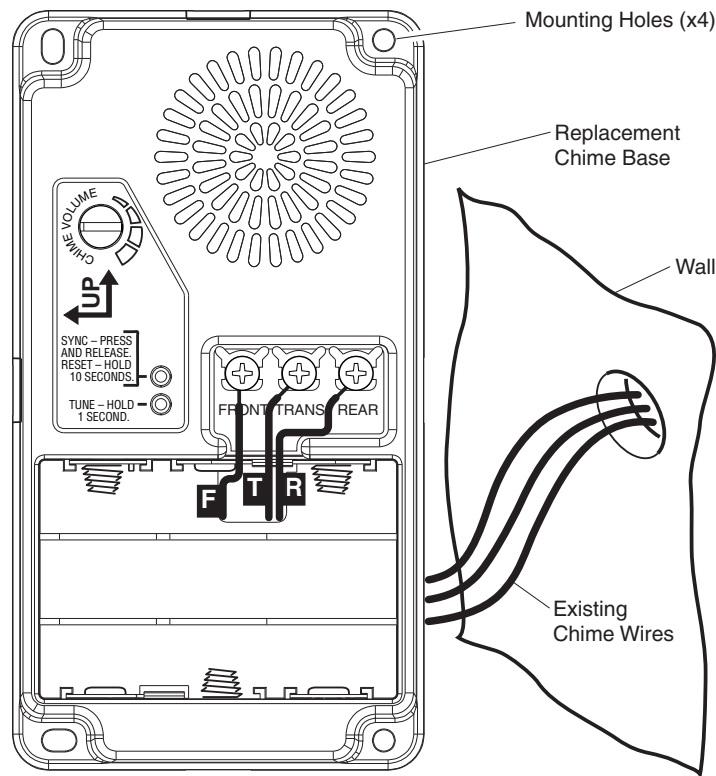

Figure 2
7. Route wires through wire entrance hole in new chime base (see Figure 2). **Note:** DO NOT install batteries if connecting chime to transformer wires.
9. Connect wire “F” to screw terminal marked “FRONT”. Connect wire “T” to screw terminal marked “TRANS”. Connect wire “R” to screw terminal marked “REAR”* (See Figure 2).